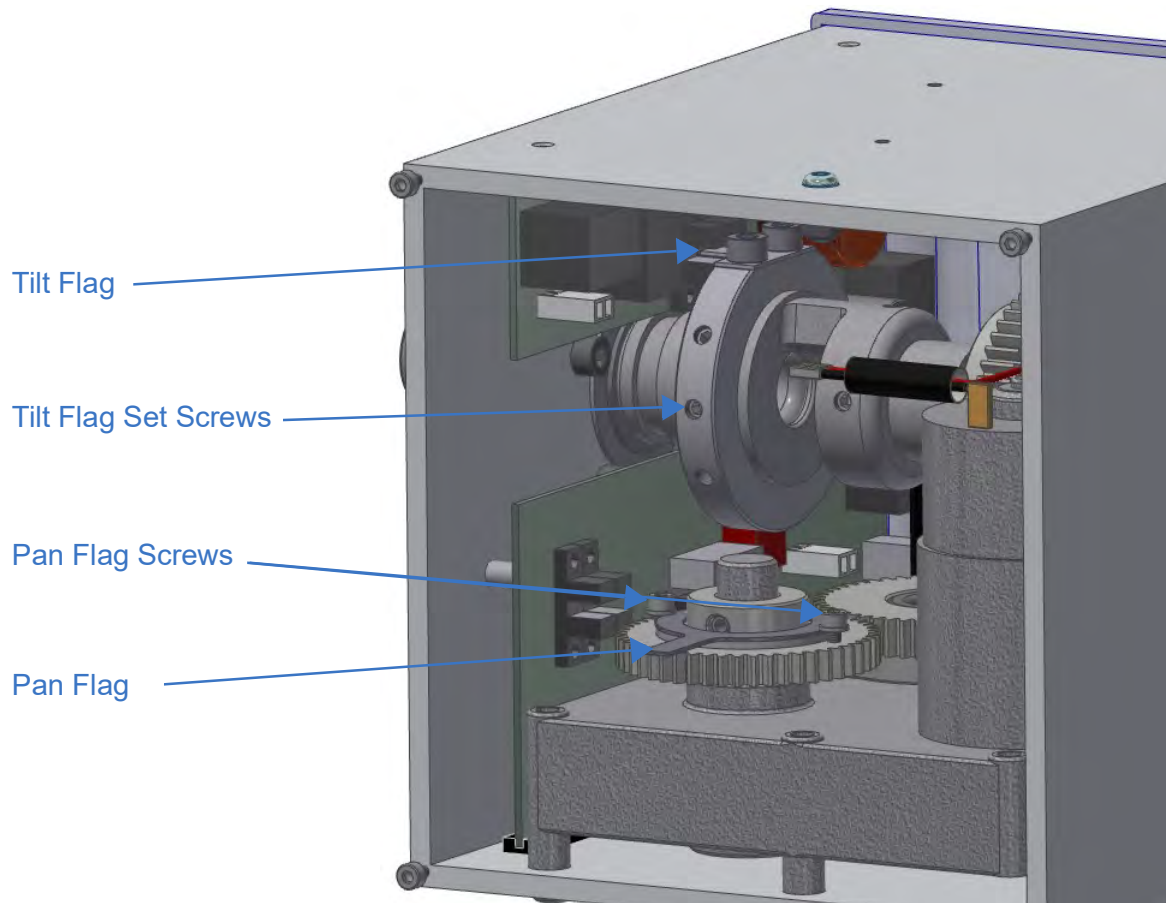

Figure 7-4 RCP Flags Single-Tilt RCP (cover removed)
3. Remove the RCP cover to access the flags. The pan and tilt flags are attached to the timing rings on the horizontal and vertical shaft gears (Figure 7-4). The tilt timing ring has two set screws that must be loosened. The pan timing ring has two cap screws that must be loosened. It may be necessary to loosen one in each, then pan and tilt the unit to access the others. Note: The flags have sharp edges that may cause cuts.